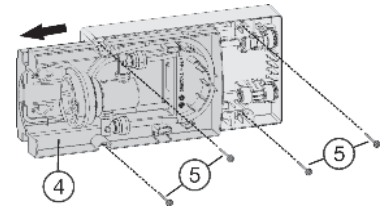

Fig. 61
- ▶ Pull the tray *Fig. 61 (4)* out until it catches.
- ▶ Secure the module with 4 screws *Fig. 61 (5)* through the recesses in the front and directly through the module in the back.